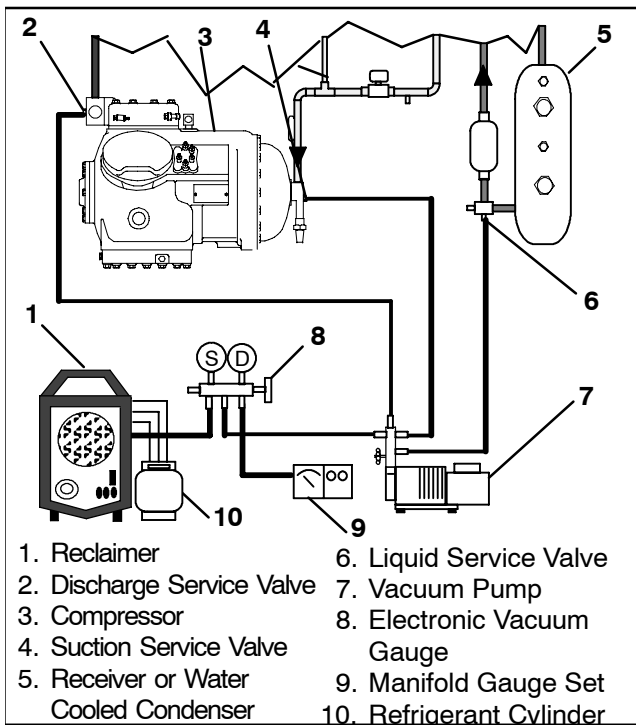

Figure 26. Compressor Service Connections
- The recommended method to evacuate and dehydrate the system is to connect three evacuation hoses (see Figure 26, page 60) to the vacuum pump and refrigeration unit. Be sure the service hoses are suited for evacuation purposes.